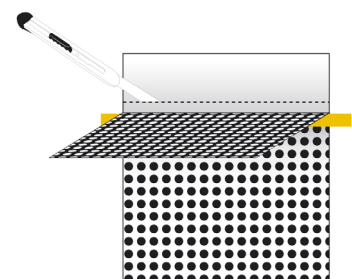

Figure 03
- › Remove the liner from the top if it has already been cut with the cutvinyl or peel it off up to the hinge and cut it without touching the MICROCGUV film. (FIG. 03)